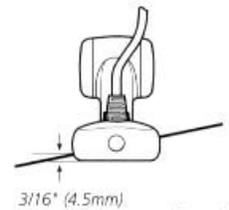

Figure 10
3. Adjust the height of the assembly so the face of the transducer is 3/16" (4.5mm) beneath the lower edge of the transom (Figure 10). Mark the position of the mounting bracket on the transom with a pencil.